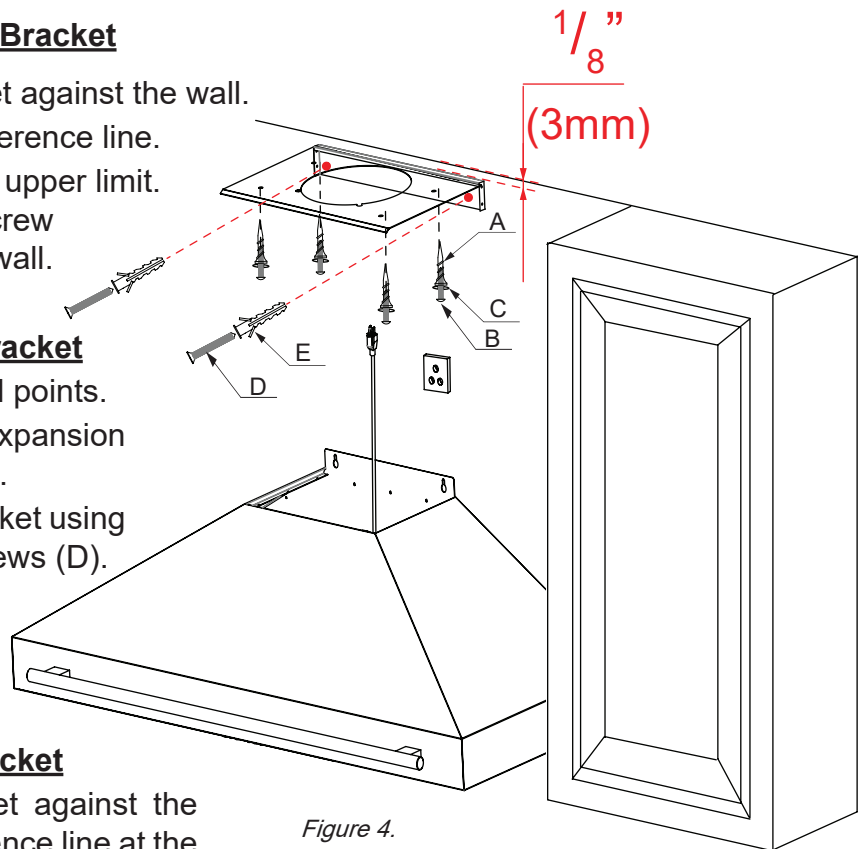

Figure 4.
See Figure 4.
- Insert the $\Phi 0.51" \times 1.61"$ spiral plastic expansion anchors (A) fully into the wall.
- Place flat washers (C) over the mounting holes.
- Fasten the bracket using the #6-32 $\times 1-3/8"$ pan head screws (B) through the washers into the anchors.
- Check that the bracket is level and securely fixed. See Figure 4.